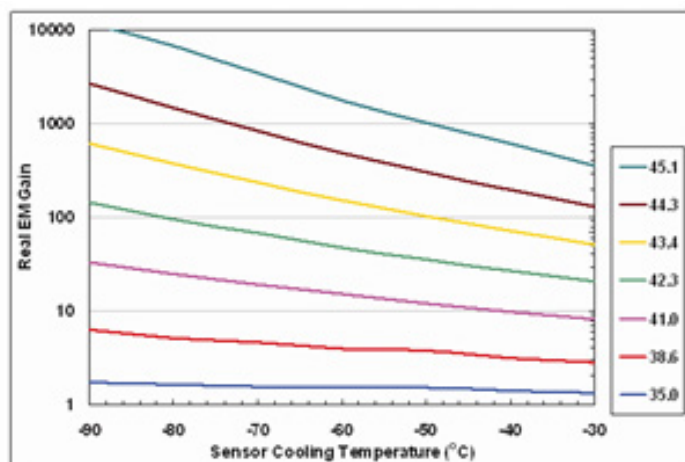

Figure 15: EM Gain vs sensor cooling temperature
The effect of sensor temperature on EM Gain is shown in **Figure 15**. This dependence arises primarily from photon scattering of electrons when they are accelerating in the EM electric field. The scattering causes a loss of energy, which increases with temperature. To make up this loss and maintain EM Gain, a larger EM electric field must be used at higher temperatures. As can be seen from **Figure 15**, EM Gains well in excess of x1000 can be achieved at low temperatures. However, it is not recommended to use gains above x1000 because such high gains can cause significant ageing of the gain register (see EM Gain Ageing in **Section 4.1.7**).
- Do not use EM Gains greater than necessary to overcome the read noise (please refer to Figure 15 and Figure 17). A gain of x4 or x5 of the root-mean-square read noise (accessible from the performance sheet) is normally more than sufficient to render this noise source negligible. In practice, this can always be achieved with EM Gain of less than x500 (much less for the slower readout speeds). Pushing gain beyond this value would give little or no extra S/N benefit and would only reduce dynamic range.